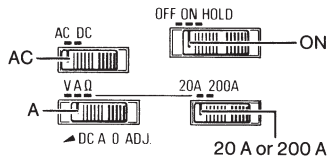

Fig. 3
- (1) Set the selector switches as shown in Fig. 3
- (2) Press the jaw trigger to open the transformer jaws and clamp onto one conductor only. Take the reading as indicated on the display.